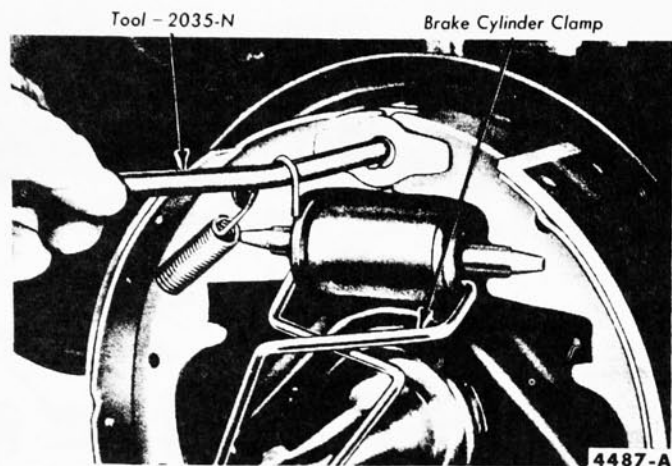

FIG. 12—Retracting Spring Installation
5. Install the brake shoe retracting springs on both sides (Fig. 12), being careful not to bend the hooks or to stretch the springs beyond the attaching points. **The primary shoe spring must be installed first.** Install the lower retracting spring, inserting the ends of the spring into the coils of the shoe retracting springs.
springs on both shoes (Fig. 12), being careful not to bend the hooks or to stretch the springs beyond the attaching points. **The primary shoe spring must be installed first.** Install the lower retracting spring, inserting the ends of the spring into the coils of the shoe retracting springs.